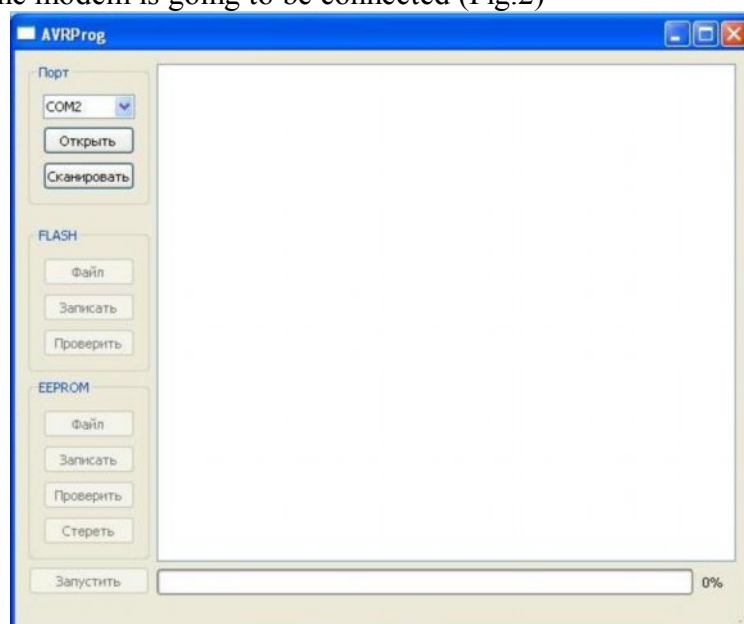

Fig.2
2. Close the programs which use the port to which the modem is going to be connected. Click the button “Scan” in the program window. Select the number of the COM-port to which the modem is going to be connected (Fig.2)